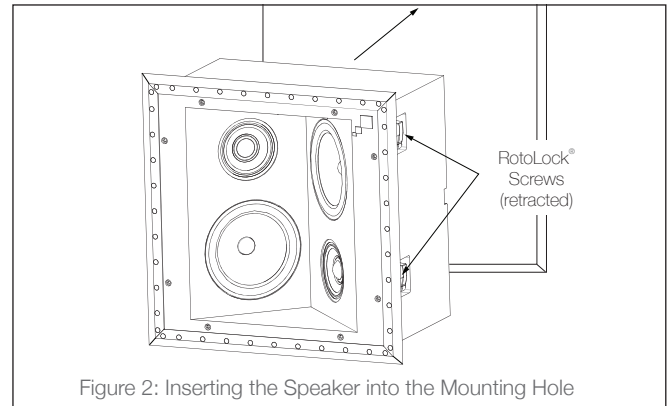

Figure 2: Inserting the Speaker into the Mounting Hole
5. Make sure all the RotoLock® toggle feet are retracted so that they are tucked within the speaker frame. Insert the speaker into the hole in the wall (see Figure 2).